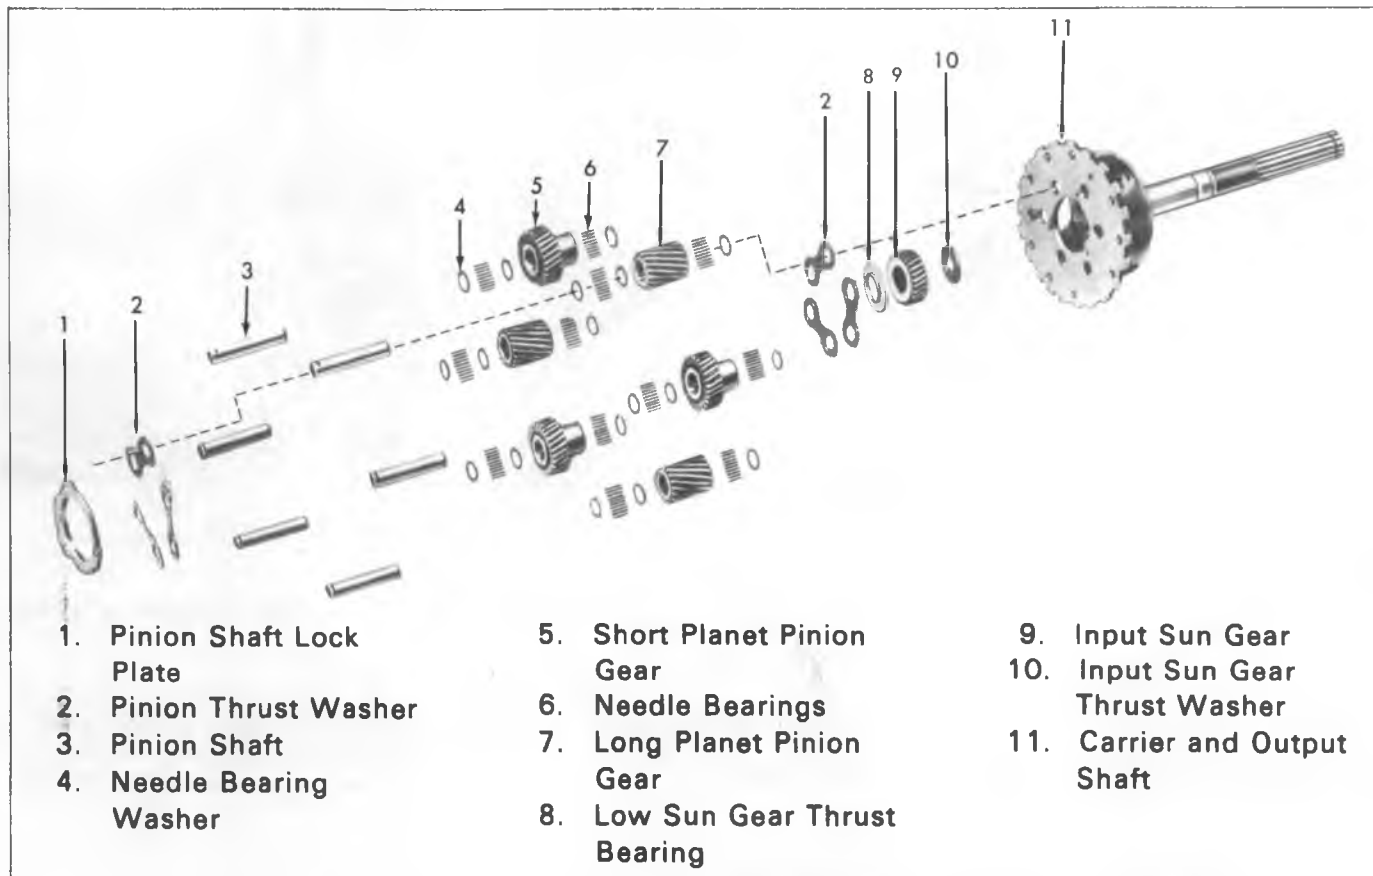

Fig. 24PG-Small Planet Carrier Assembly-Exploded View
15. Using J-4599, assemble needle bearing spacer and needle bearings (20 in each path) in one of the long planet pinions (fig. 24PG). Use petroleum jelly to aid in assembling and holding the needle bearings in position.